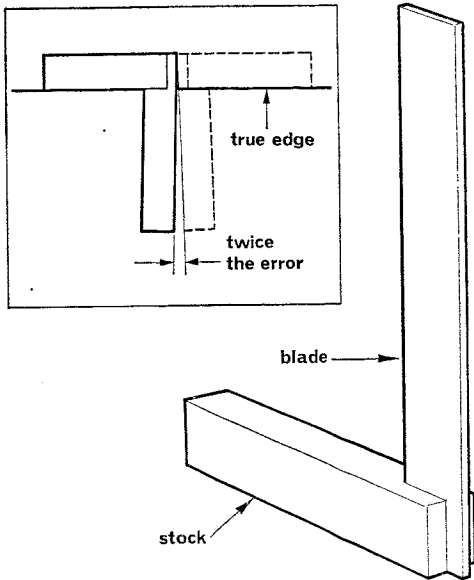

Fig. 32 Fitter's square
37. Fitter's square. A square is used when scribing lines at right angles to a surface or edge, and for checking the truth of a right angled piece of work. It is made of steel and consists of a stock fitted with a blade set at exactly 90° . Periodically it should be tested as shown in Fig. 32 using the true edge of a flat surface.